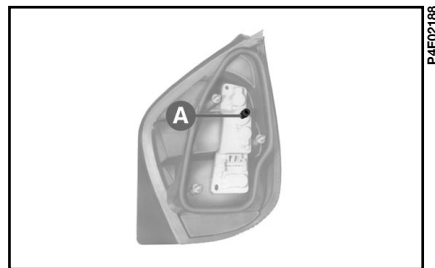

fig. 23
1) From inside the boot, lift the opening on the covering panel and unscrew nut **A-fig. 23**.